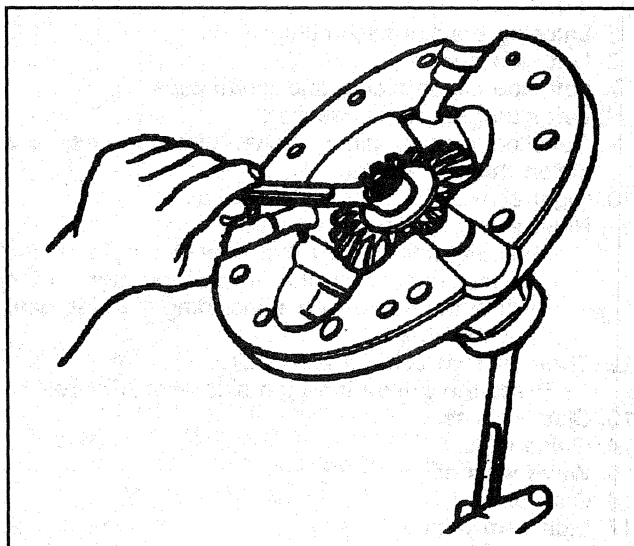

Figure 13—Clamping the Cam Unit in Place
2. Clamp the cam unit in place using a set of washers, nut, and a bolt long enough to hold the cam unit in place (Figure 13).
4. Clamp the side gear in place using a set of washers, a nut, and a bolt long enough to hold the side gear in place (Figure 13).